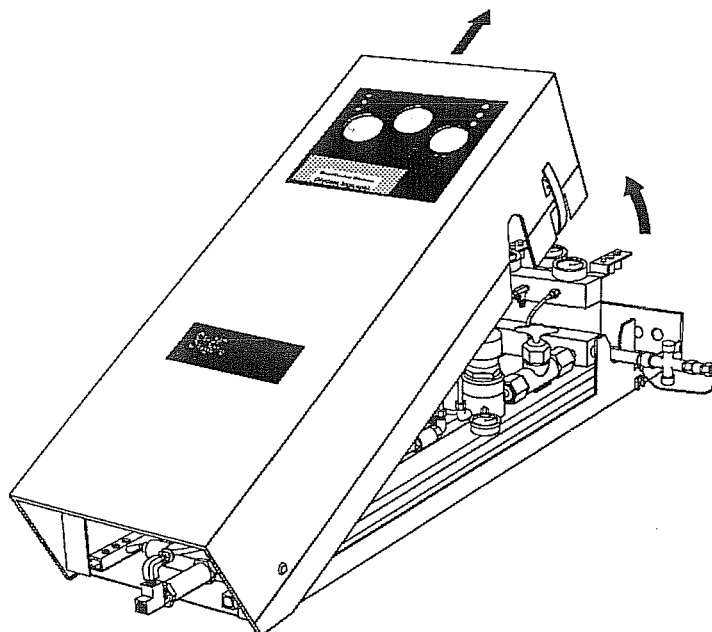

Figure 2-2
4. Remove the manifold cover by raising the top of the manifold cover about one foot and then sliding the cover up and away. (Figure 2-2)